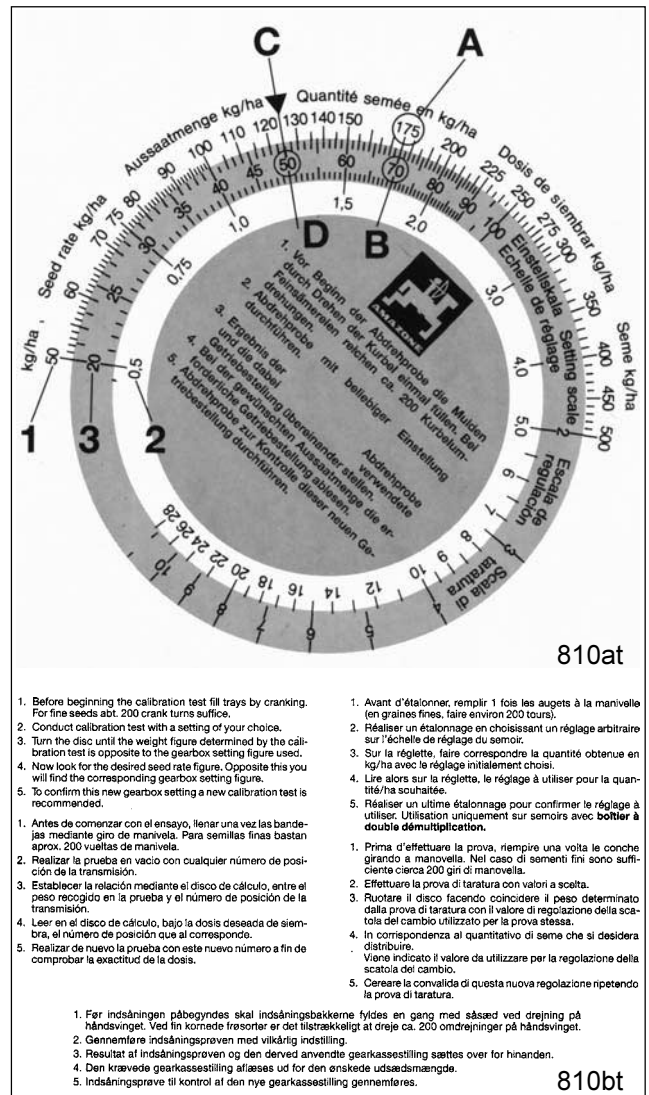

Fig. 16.10
The disc rule consists of three scales: an outer white scale (Fig. 16.10/1) for all seed rates above 30 kg/ha and an inner white scale (Fig. 16.10/2) for all seed rates of less than 30 kg/ha. On the centre coloured scale (Fig. 16.10/3) the gearbox settings from "1 to 100" are indicated.
- Align the seed rate 175 kg/ha (Fig. 16.10/A) and the gearbox setting figure "70" (Fig. 16.10/B) on the disc rule.
- Now read off the disc rule the gearbox setting figure for the desired seed rate of 125 kg/ha (Fig. 16.10/C). In our example that is the gearbox setting figure "50" (Fig. 16.10/D).